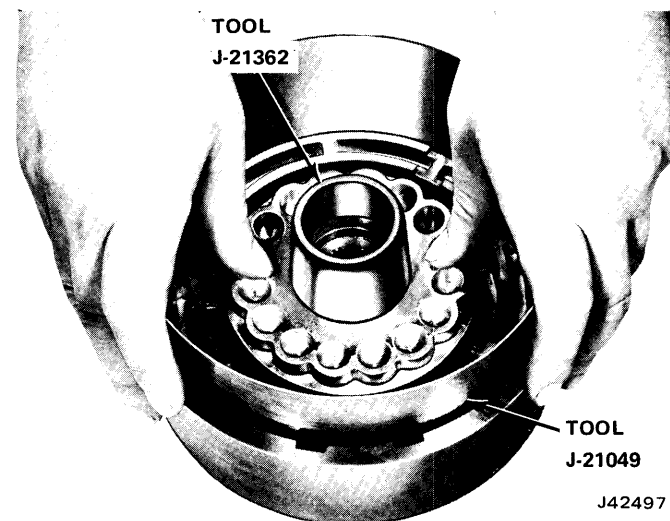

Fig. 7-72 Installing Forward Clutch Piston
(3) Place Seal Protector Tool J-21362 over clutch hub and install outer clutch Piston Seal Protector Tool J-21049 in clutch housing. Assemble piston and housing, and rotate piston in housing until seated (fig. 7-72).
(4) Install 16 clutch release springs in piston pockets, and place spring retainer over springs.